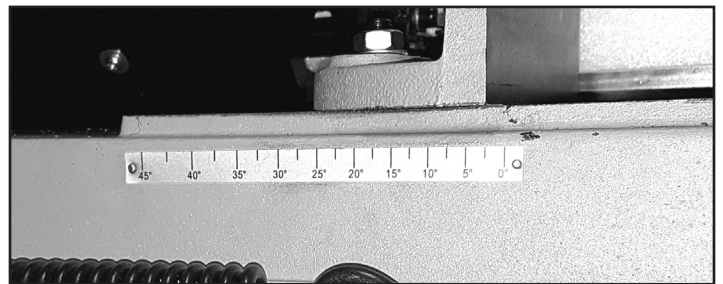

Fig. 14
2. Tilt the jaws to the desired angle. You can refer to the angle scale on the back of the saw base (Fig. 14).